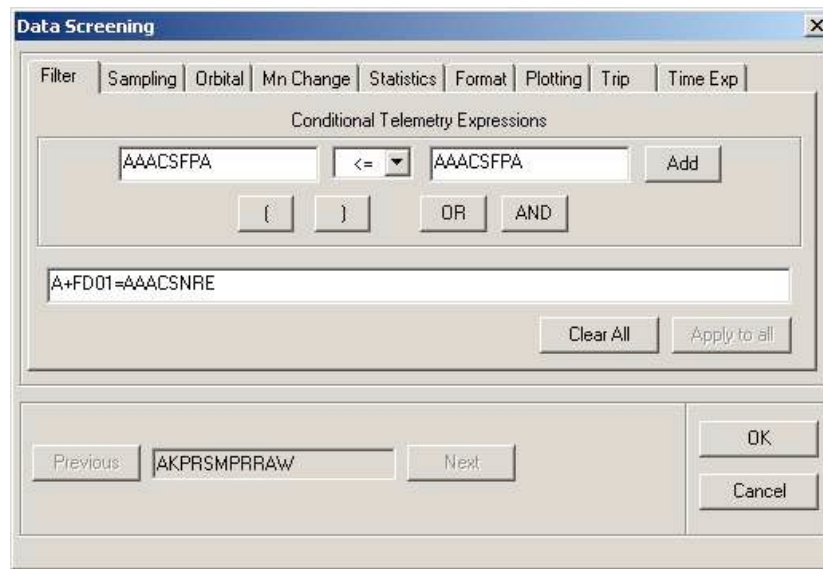

Figure 70: Data Screening- Filter Window
- Select the "Filter" tab from the Data Screening window (*see Figure 70*).